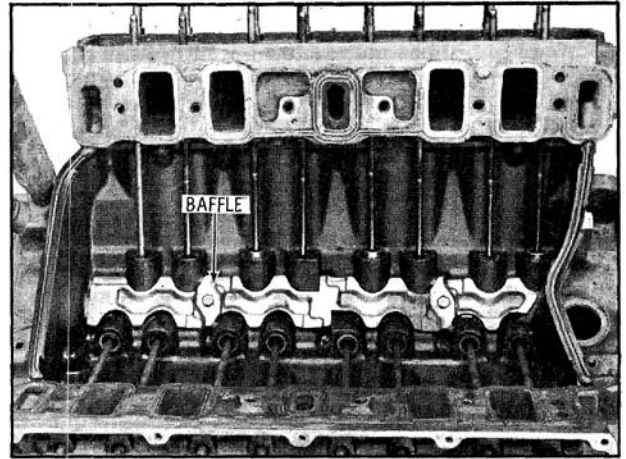

Fig. 3-62 Baffle Installation
2. Install baffle (if removed) in 425 cubic inch engine as shown in Fig. 3-62. Install manifold gaskets and manifold.